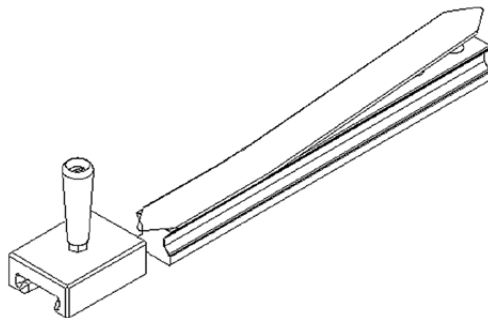

Fig. 4.21 Mounting the cover strip with the help of the HIWIN mounting tool
- ▶ To do this, place the mounting tool on the front side of the rail as shown in Fig. 4.21, and slide it over the entire rail.